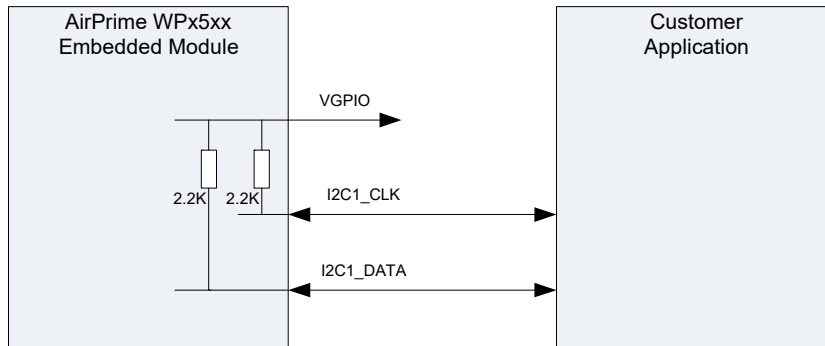

Figure 4-3: Example of I²C Bus Application
- I²C signals are implemented internally as open drain outputs (per the I²C specification) with 2.2 k Ω pull-up resistors to VGPI0 (see Figure 4-3 on page 78).